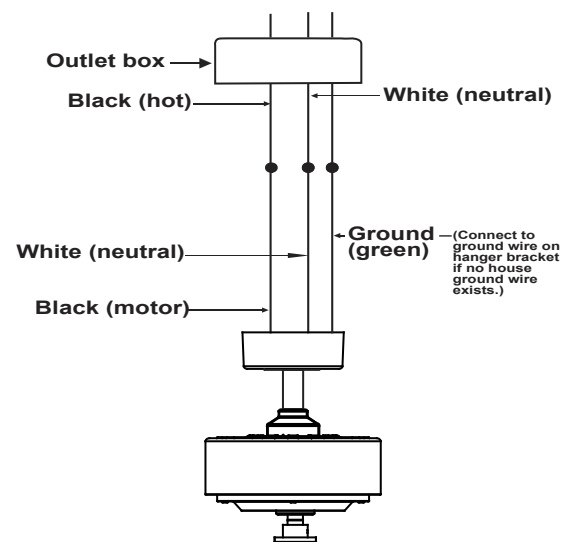

Fig. 13
Step 1. Connect the fan supply wire (black) to the black household supply wire. (Fig. 13)